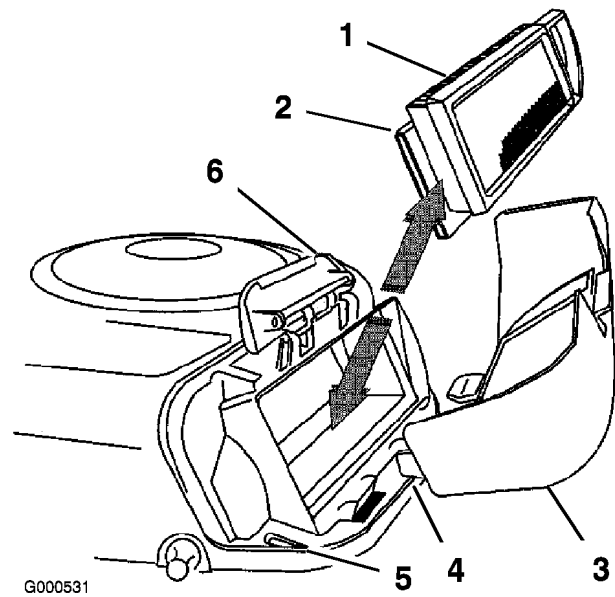

Figure 22
4. Carefully slide the paper element and foam element from the blower housing (Figure 22).
2. Align the tabs on the air cleaner cover with the slots of the blower housing (Figure 22). Hook the handle onto the cover and press down on the handle to lock the cover in place.